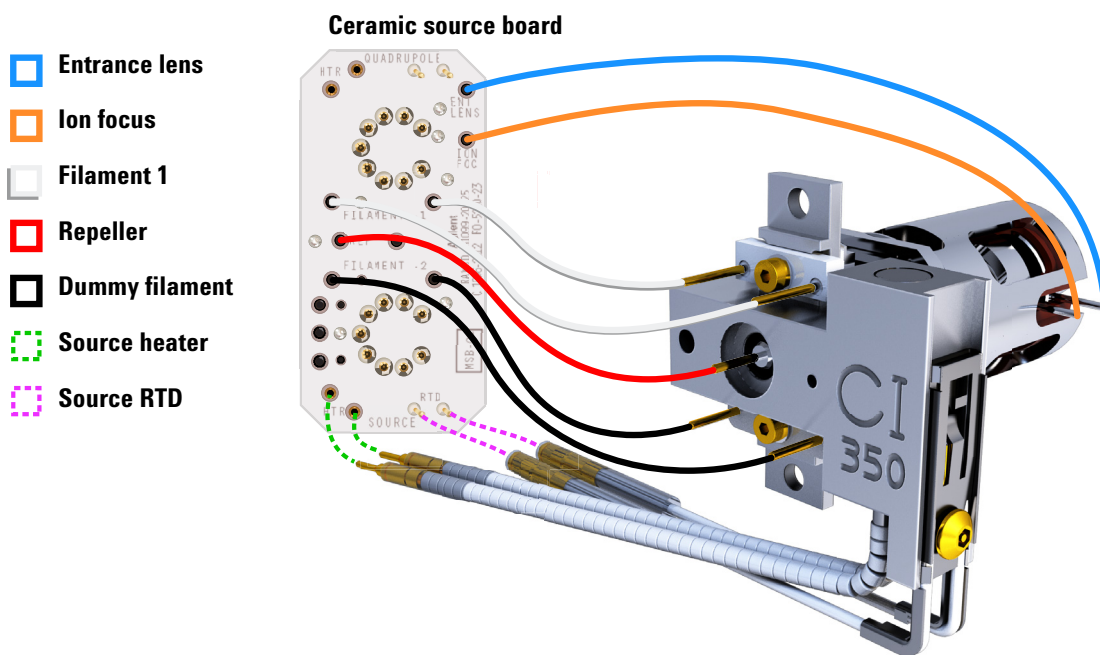

Figure 71 Wiring between the ceramic source board and the source
- 1 Use pliers to connect/disconnect the ceramic board wire leads at the source connectors. (See Figure 71.)
- 2 Use pliers to connect/disconnect the source heater wire leads at the ceramic source board. (See Figure 71.)